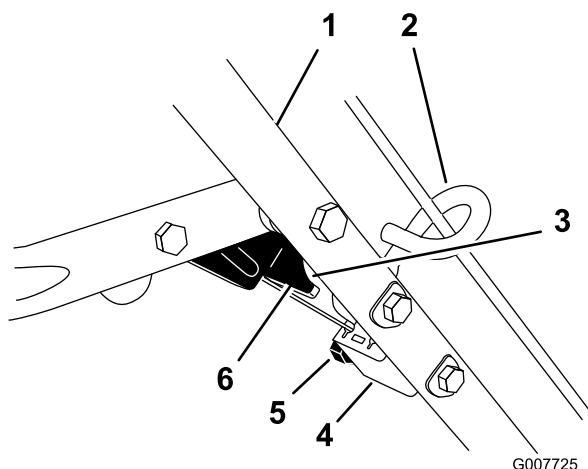

Figure 29
4. Loosen the nut on the cable bracket (Figure 29).